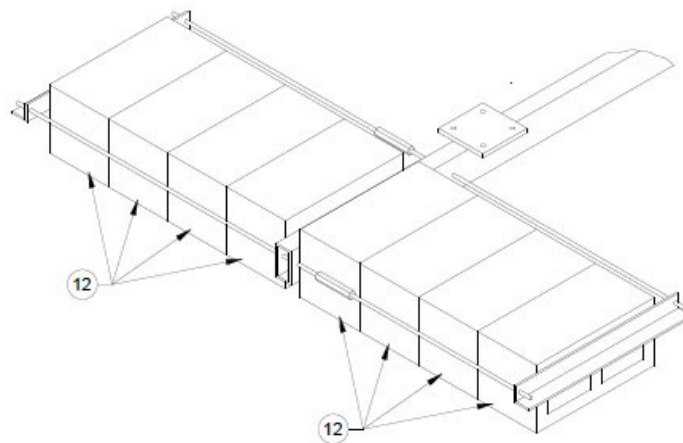

Figure 6: Block Assembly
6. Place the pressure pads (11) on the ground under the angle clamp assemblies. Center the pads using the threaded rods and clamp angles as guides.
7. Place the appropriate number of concrete blocks (12) between all threaded rods and clamps. The long axes of the blocks should be perpendicular to the threaded rods (see Figure 6). Square up the assembly, but do not tighten the coupler nuts. Repeat the process on the other side of the rectangular support tube.